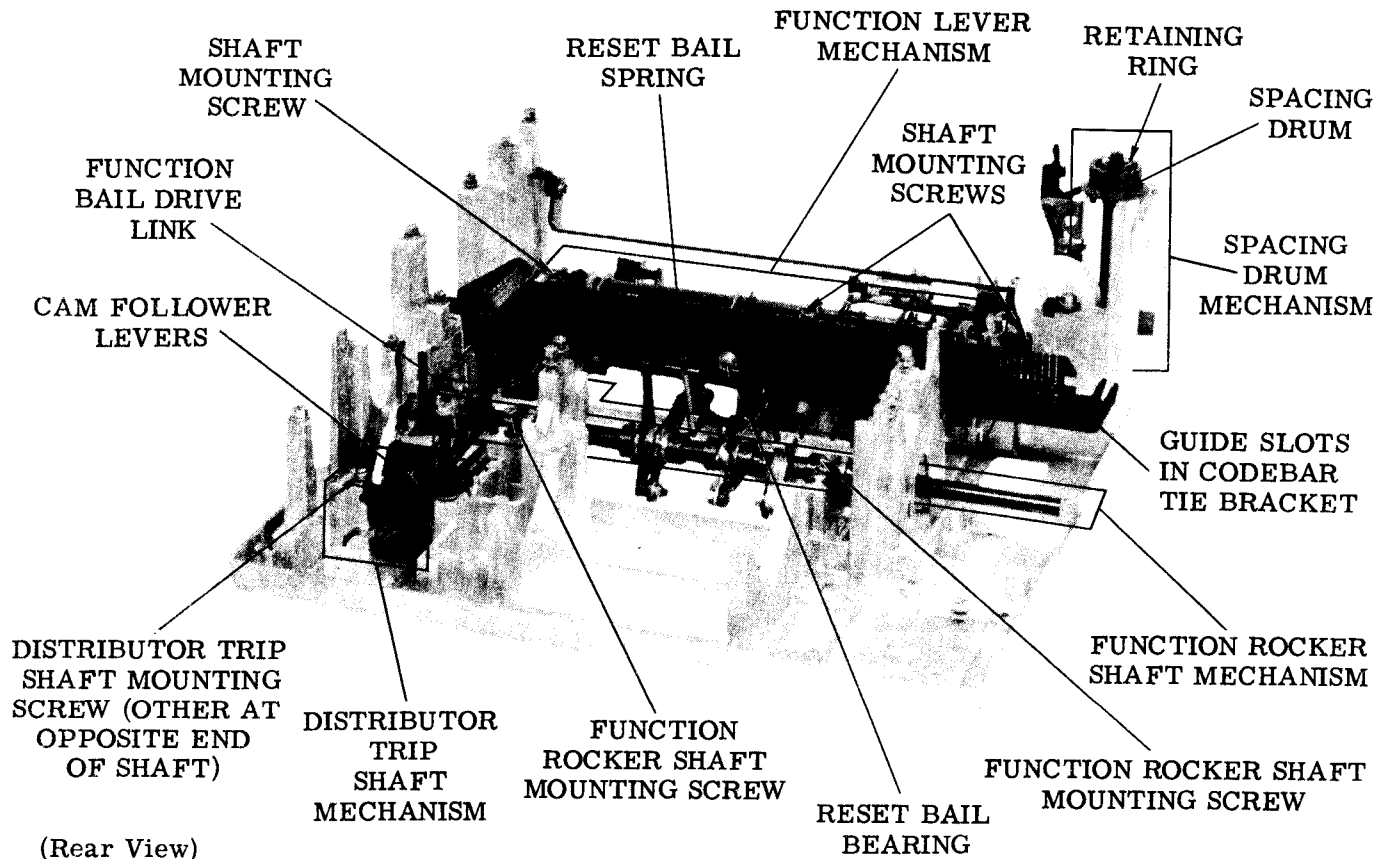

Figure 3 - Typing Unit (A Number of Mechanisms Removed)
- 2.07 To remove function lever mechanism (Figure 3), proceed as follows.
- 2.08 To remove spacing drum mechanism (Figure 3), proceed as follows.
- 2.09 To remove distributor trip shaft mechanism (Figure 3), proceed as follows.